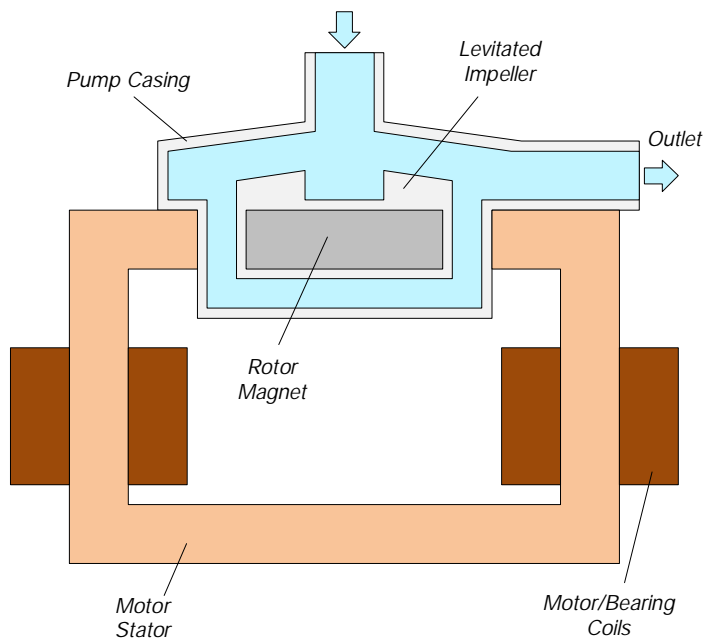
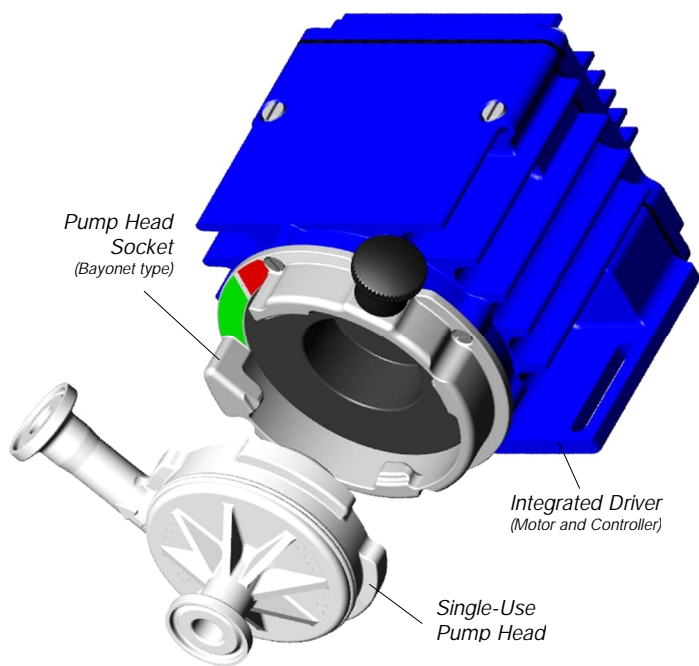
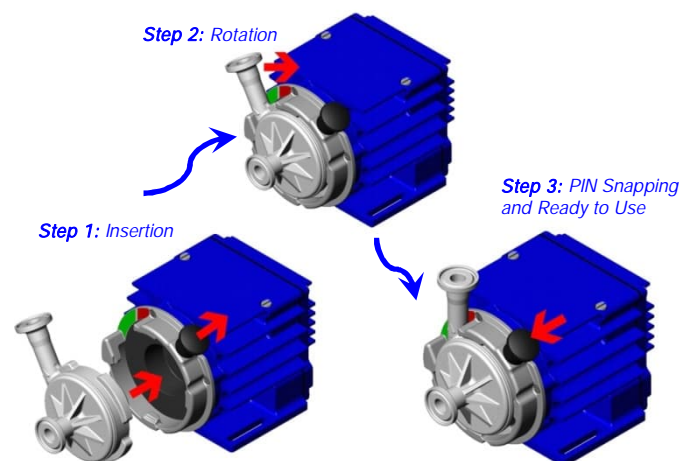

Figure 1: Schematic of the main elements of the MagLev centrifugal pump
Figure 2: Integrated MagLev pump driver with pump head
Figure 5: Intuitive 3-step pump head mounting procedure with bayonet type socket (PHS-i100.1)
Levitronix® has developed a revolutionary pump that has no bearings to wear out or seals to break. Based on the principles of magnetic levitation, the pump's impeller is suspended, contact-free, inside a sealed casing and is driven by the magnetic field of the motor (Figure 1). The impeller and casing are both fabricated from biocompatible (FDA, USP-VI, BSE/TSE and Animal free) gamma sterilizable polypropylene (PP) and together they make up the disposable pump head. A simple and intuitive exchange of the single use pump head is achieved with a bayonet socket type mounting procedure (see Figure 5). Flow rate or pressure is precisely controlled by electronically regulating the rotor speed, which eliminates any pulsation. With the lack of mechanical bearings plus the self-contained pump head design, the risk of contamination is drastically reduced. The absence of narrow gaps between the impeller and pump casing, plus the low-shear pump design allows the gentle pumping of sensitive liquids. The pump housing is fabricated with Triclamp fittings and can be easily inserted and removed with an intuitive bayonet socket. The controller and the motor are integrated into the driver housing (see Figure 2), hence cabling effort is reduced.
- Bayonet socket design for easy and intuitive exchange of disposable pump head (see Figure 5).